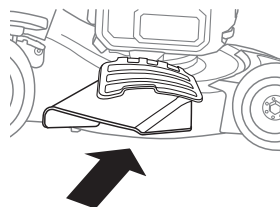

Fig. 4C
5. Install the side discharge chute under the side discharge cover by sliding two hooks under the hinge pin on the door assembly (Fig. 4C). Lower the side discharge cover until the side discharge chute is secured in place. The lawn mower is now ready for side discharge operation.